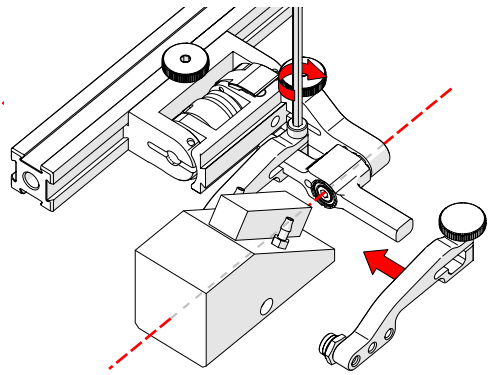

Fig. 151 - Place wedge
7. Position the wedge on the inner probe holder arm (Fig. 151).